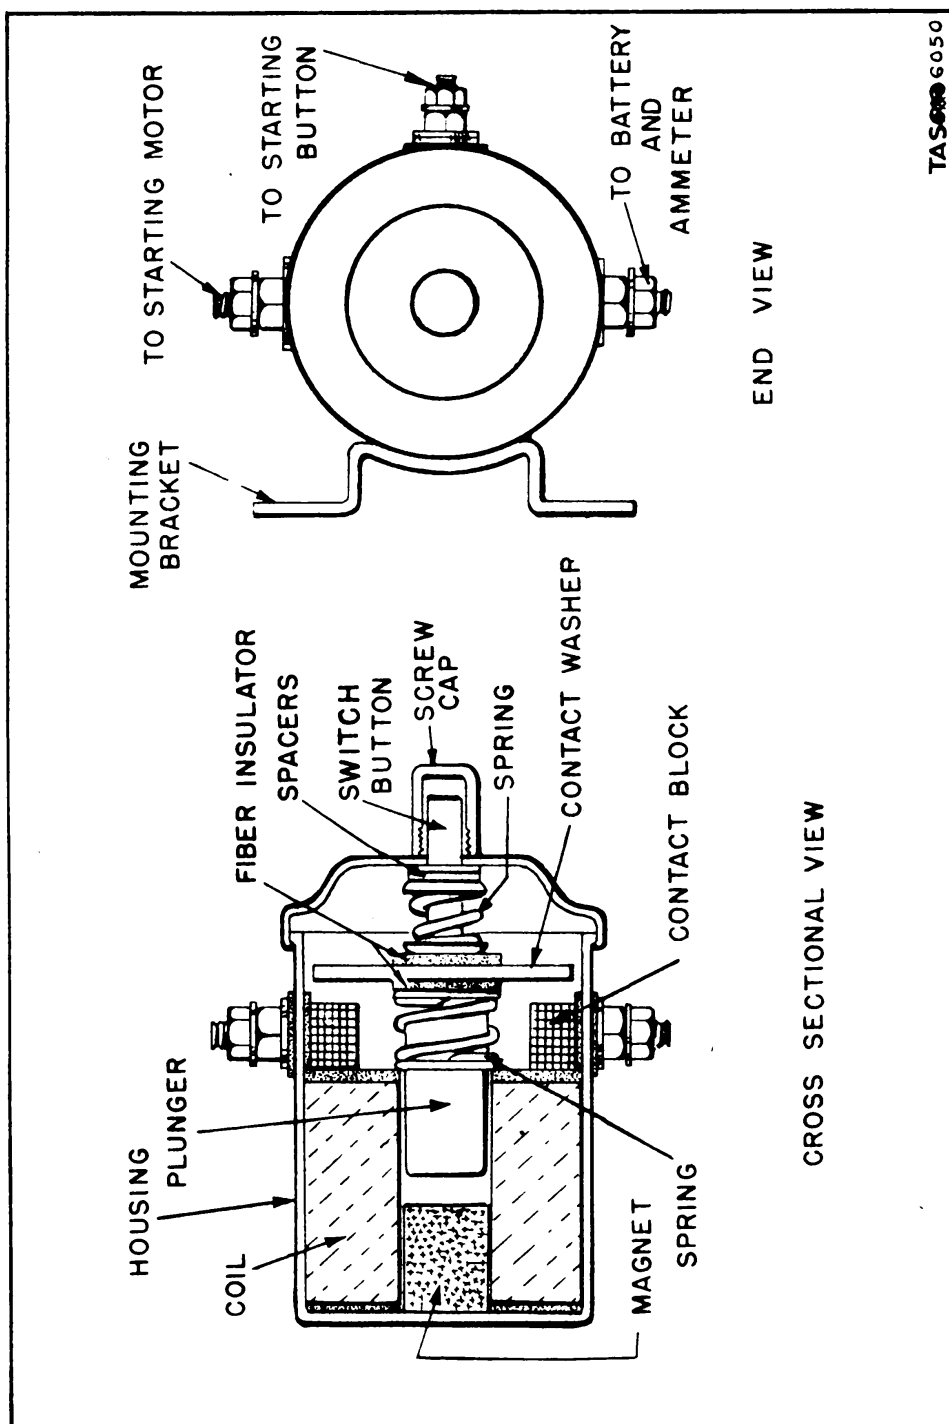
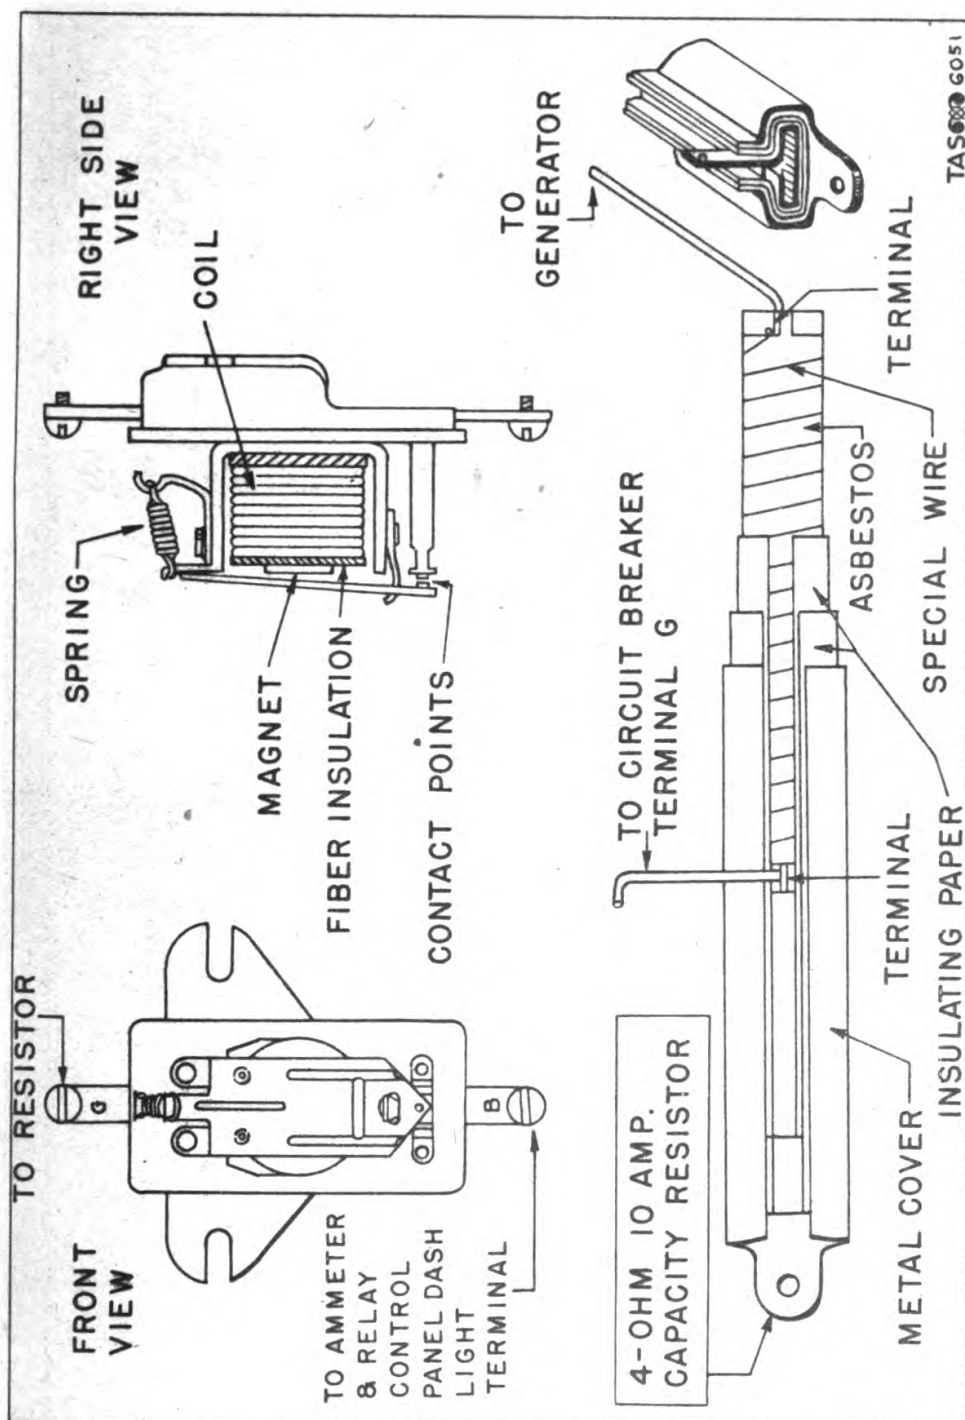

Fig. 50. Solenoid Switch.
Fig. 51. Circuit Breaker and Resistor.
(2) A conductor runs from the 6-volt battery, the negative pole of which is grounded to the frame of the smoke generator, to the solenoid switch. (See fig. 50.) Another conductor leads from the solenoid switch to the starting motor. (See fig. 120.)
(3) Another conductor runs from the solenoid switch to the starter button on the engine control panel and from thence to the ammeter on the panel. A third conductor from the solenoid switch leads directly to the ammeter
(4) A conductor leads from the ammeter to the circuit breaker. (Fig. 51.) The circuit breaker normally is open. It is closed by an electro-magnet energized by the engine generator when the engine speed reaches approximately 1,300 revolutions per minute. Without this element the battery would